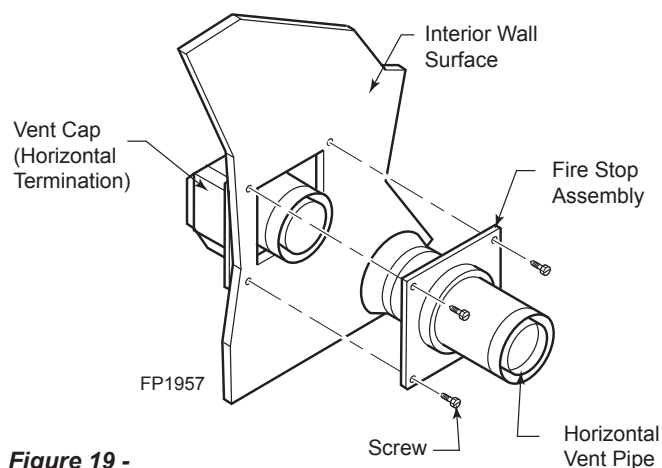

Figure 19 -
5. Slide fire stop over the vent pipe before connecting the horizontal run to the vent cap. *Figure 19*
7. Slide fire stop against the interior wall surface and attach with screws. *Figure 19*